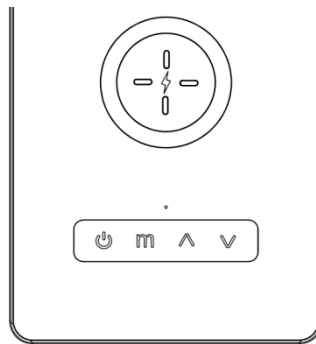

Fig. 2
3.  On / off key, touch the on / off key, as shown in Fig. 2;
4.  Three colors' temperature adjustment in the color adjustment key (3000K, 4500K and 6000K), as shown in Fig. 2;
5.   Adjust the brightness key, if the arrow is up, it is the lightening key, while if the arrow is down, it is the dimming key (a total of five adjustable brightness), as shown in Fig. 2;